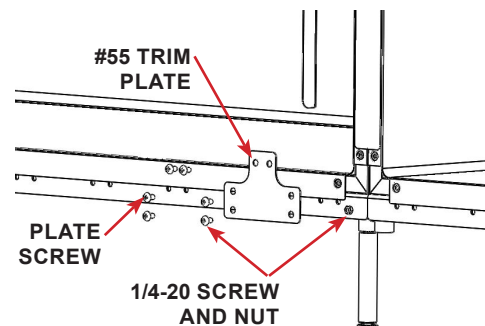

FIGURE 2.30 - Trim Plate #55
**STEP 22:** Install, but do NOT fully tighten screws, trim plate (#55) using the screws removed in the previous step. The bottom holes require 1/4-20 screws and nuts to secure the cage to the platform frame. Repeat this step for each cage added to the row. See FIGURE 2.30